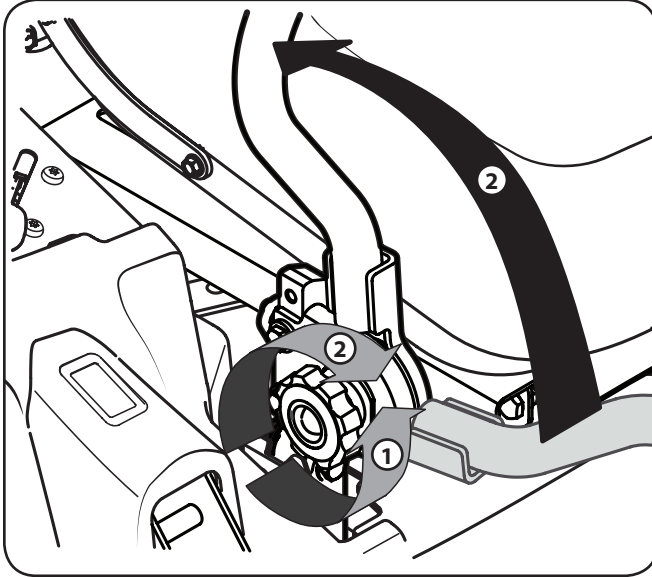

Figure 3-4
1. Loosen the control lever knobs on the side of the drive control levers. See Figure 3-4.
2. Lift and swing that control lever upward into the desired position and secure in place by tightening the control lever knob. See Figure 3-4.